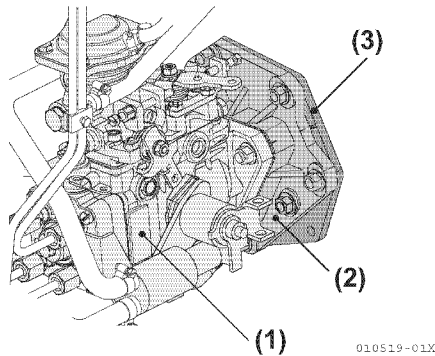

Figure 5-161
- Install the VE pump bracket and O-ring to the gear case while adjusting both mark-off lines of the bracket and gear case (**Figure 5-161**).